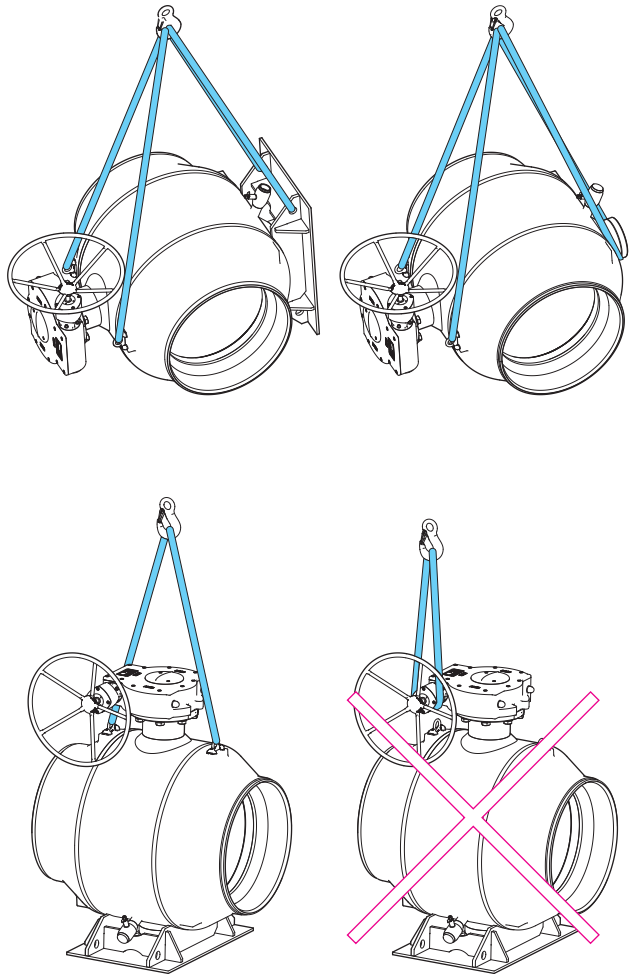

Figure 3. Lifting the valve \geq DN600 full bore.
- The valve or valve assembly must not be lifted from the actuator. If the valve is equipped with lifting lugs, use them (see Figure 3). Dropping or incorrect lifting of the valve can result in personal injury or equipment damage.